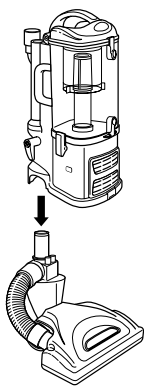

Fig. 7
- 2 Align the tube on the canister with the tube on the nozzle. Lower canister onto nozzle until it clicks into place. (Fig. 7)